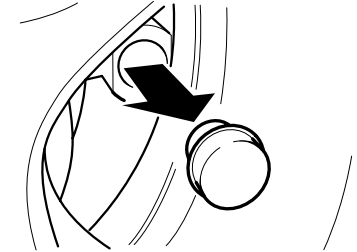

Fig. 2
- Unscrew the plastic cap from the receiver and store in the tool kit box. (When AI-Ko Secure is not in use, always screw the plastic cap in place). (Fig. 2)